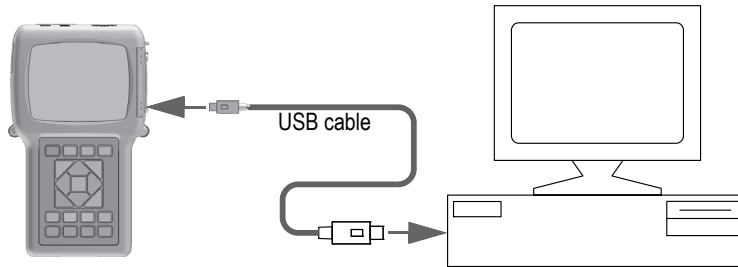

Figure 14-2 Connecting the 39DL PLUS to a computer
9. Connect one end of a USB cable to the USB client connector under the I/O door of the 39DL PLUS, and the other end to a USB port of the computer (see Figure 14-2 on page 263).